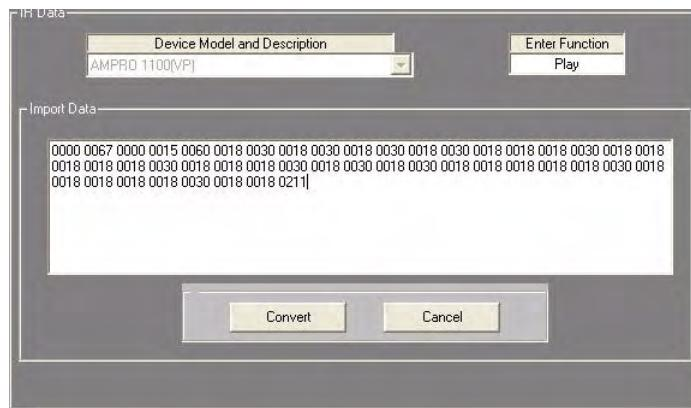

FIG. 54 AMX Library Files dialog - Hex data entered
3. Copy and paste the appropriate Hex code for this function in the *Import Data* text field (FIG. 54).